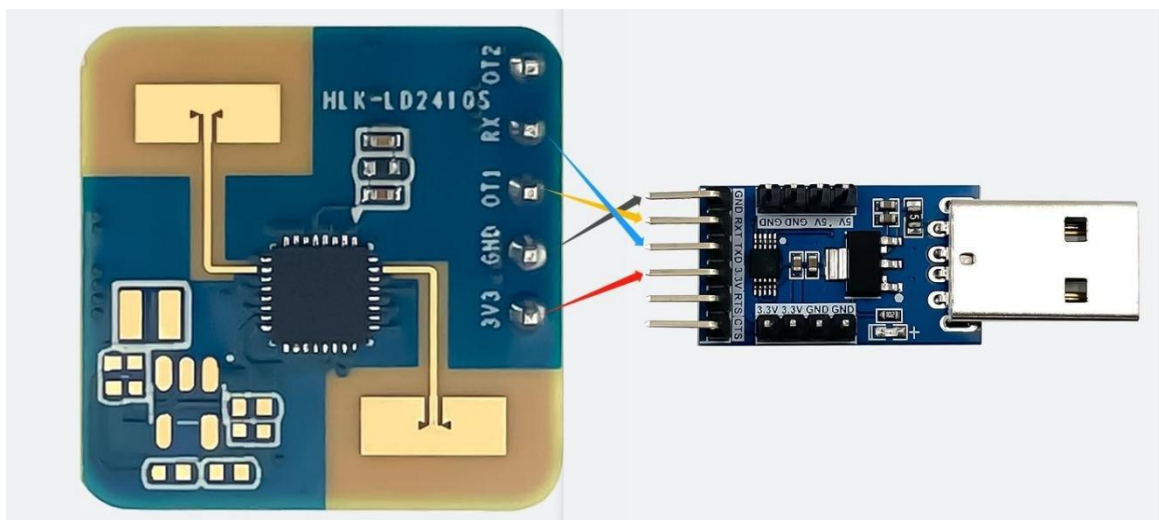

Figure 4-1 Connection between the hardware LD2410S and the USB serial port board
Step 1. Connect the host computer to the millimeter wave sensor through the USB-to-TTL serial port adapter board. Table 4-1 and Figure 4-1 show the pin connections;
Step 2. Connect the mmwave sensor to the host using the serial port adapter, as shown in Figure 4-1.